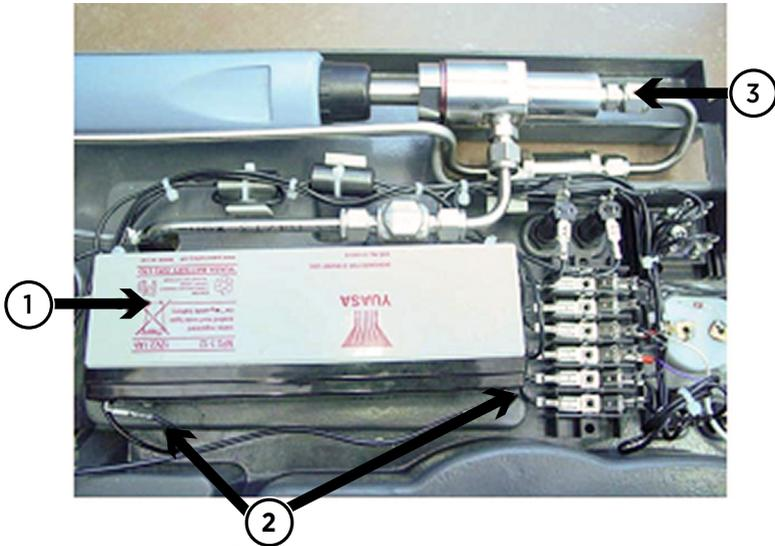

Figure 24 Sampling system upside down
- Turn the sampling system upside down (see Figure 24 \(page 55\)).